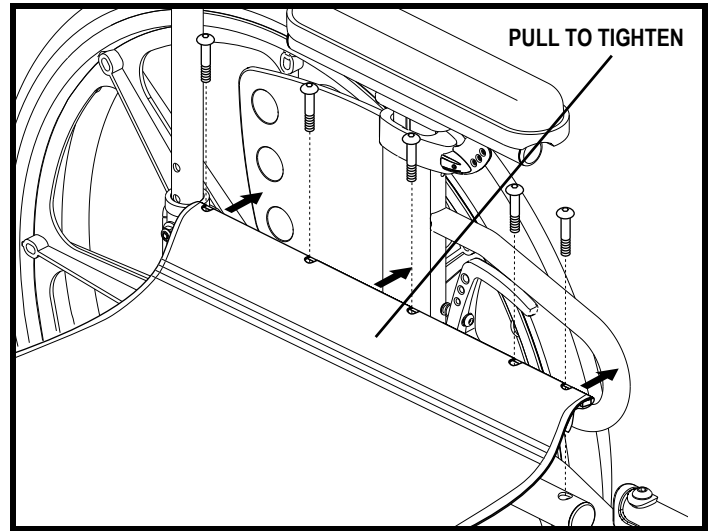

Figure 39. Seat Tension Adjustment
1. Loosen the screws that attach the seat to the side rail on the left side (side with hook and loop fastener). See figure 39.